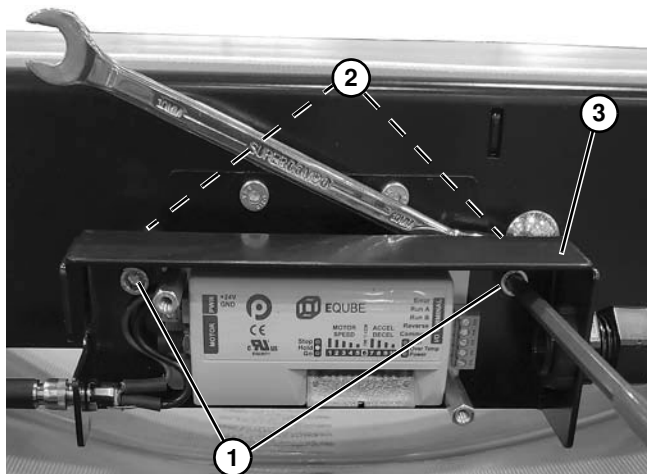

Figure 209
3. Remove two screws (Figure 209, item 1) and nuts (Figure 209, item 2) to remove controller assembly (Figure 209, item 3) from mounting bracket.